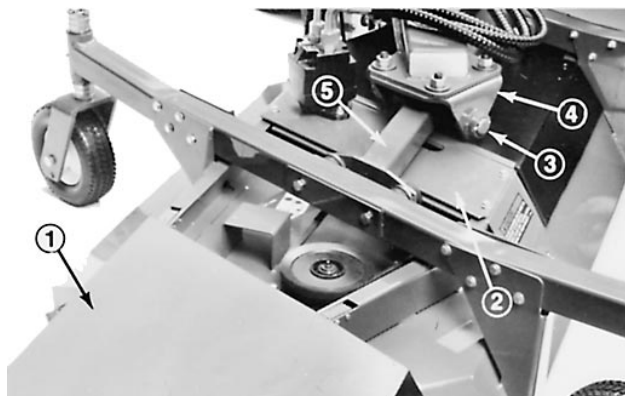

Figure 66
3. Remove the flange head screws securing the gearbox plate to the deck. To separate the plate and drive motor assembly from the deck, rotate the plate end toward the traction unit (Fig. 66). Tip the plate, motor and pulley assembly on its side and remove them from the deck. Be careful not to bend, twist, kink or damage flexible hydraulic lines.
4. Remove the locknut securing the deck pivot shaft into the deck clevis and lift bar (Fig. 66).